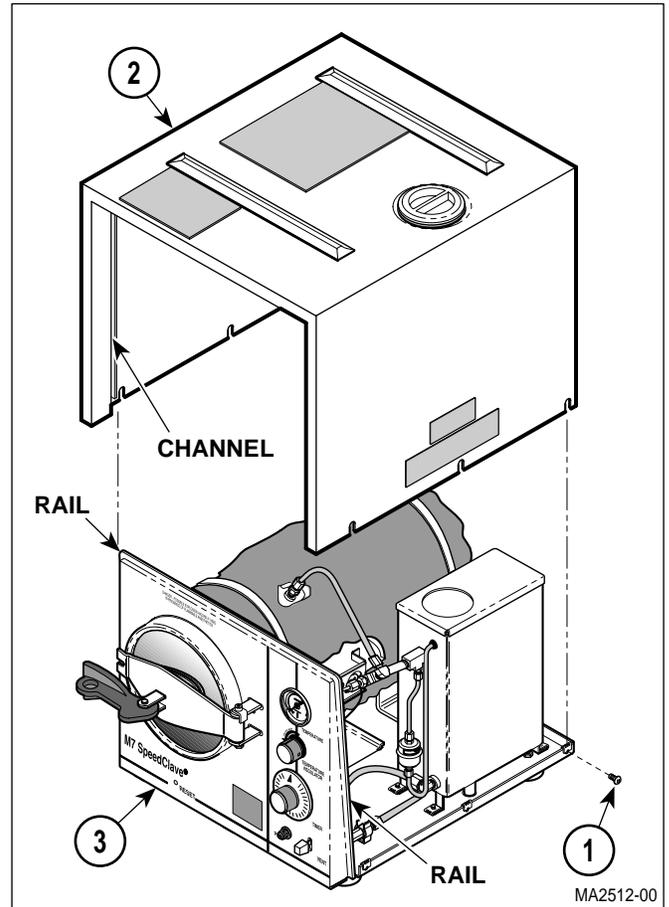

Figure 4-1. Cover Assembly Removal / Installation
- (1) Disconnect power cord from wall outlet.
- (2) Loosen six screws (1, Figure 4-1), three on each side, and remove cover assembly (2) from base assembly (3).